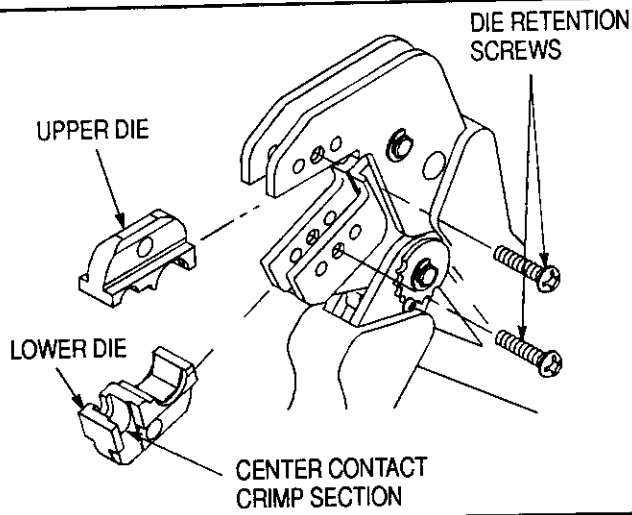

Figure 2
3.1. Shouldered Dies (Figure 2)
Die assemblies with center contact crimp sections should be installed with the center contact crimp section toward the front of the tool jaws as shown in Figure 2. If indicated otherwise in other instructions, follow the specific die requirements demonstrated in that document.